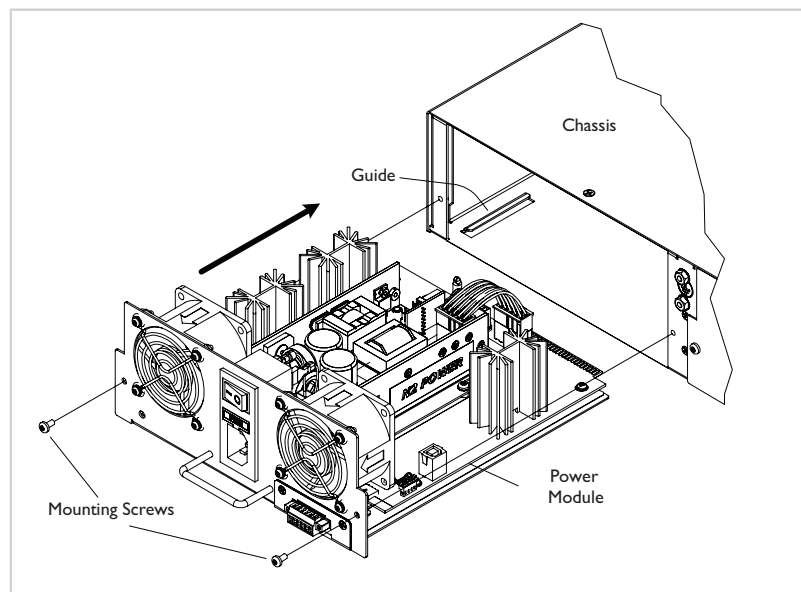

Figure 10: Power ON/OFF Switch
8. Position the Power Module at the chassis slot, as shown in Figure 10.